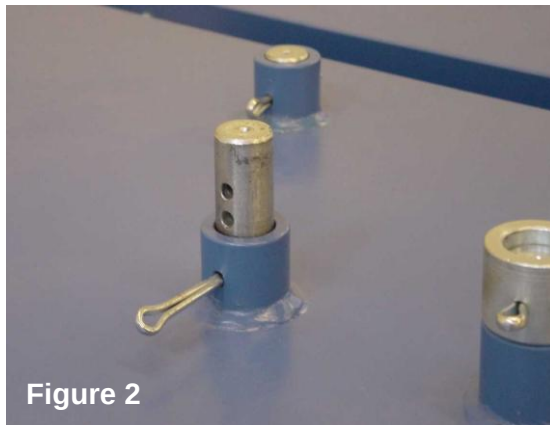

Figure 2
- 3.2 The height of each lifting paddle is adjusted by removing the split pin, raising or lowering the shaft according to requirements, and re-inserting the split pin when the hole in the shaft aligns with the location hole in the mixer head. Four holes in each shaft provide different working heights for each paddle (Figure 2).